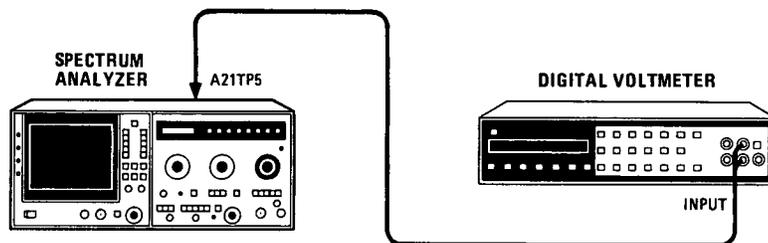

Figure 5-14. Horizontal and Vertical Gain Adjustments Test Setup
2. Reconnect power cord, set LINE switch ON, and connect equipment as shown in Figure 5-14. Set spectrum analyzer controls as follows: